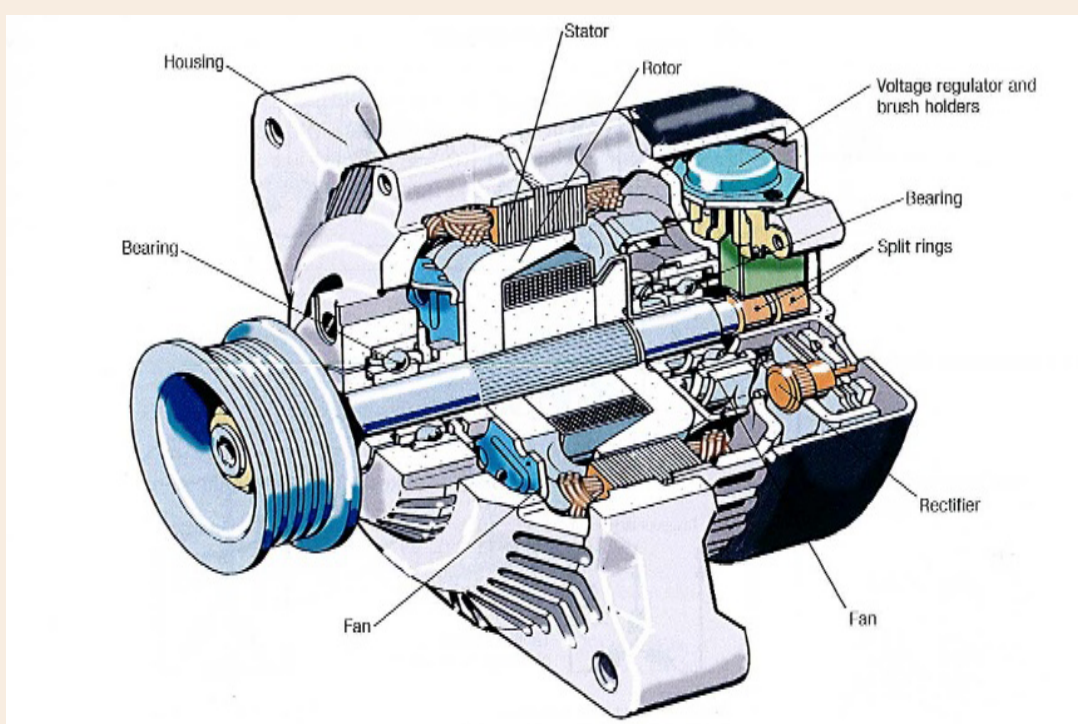

Fig 3 Parts of an alternator
1. Draw and label a diagram or a model (shown in fig. 3) of an alternator showing parts like rotor, stator, slip rings, etc.